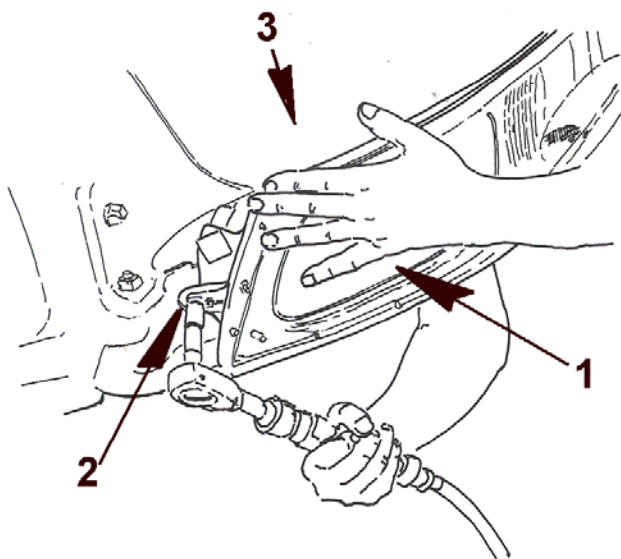

Figure 42 Headlight Assembly Removal
4. With hood tilted, loosen and remove the headlight assembly mounting bolt (Figure 42, Item 2) from the fender assembly mounting hole